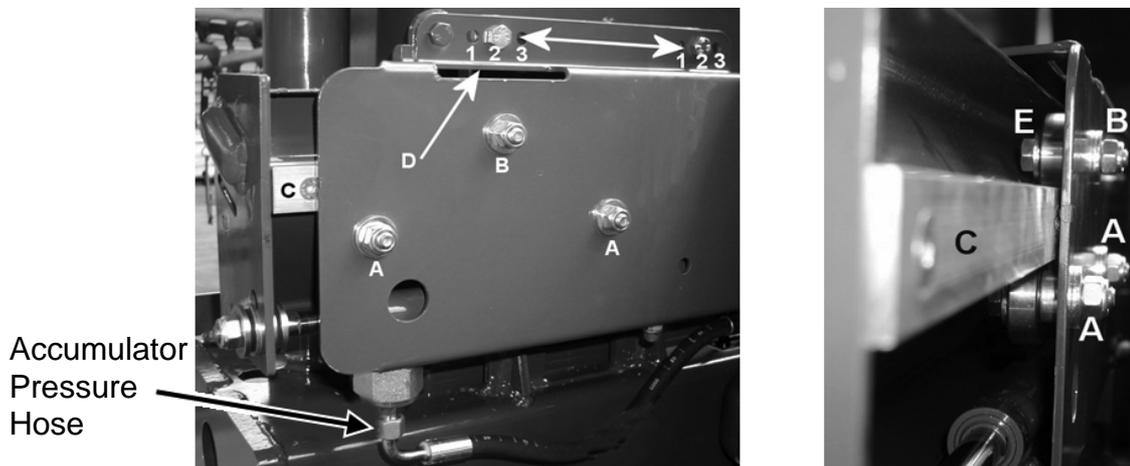

Figure 8.I - Cut and hold rail/horizontal position adjustment
The cut and hold assembly can be adjusted through three (3) different horizontal positions, if desired. The factory set position is at 2, as shown in Figure 8.I. Ensure that the cut and hold assembly is safely secured (as assembly is quite heavy) before attempting the following procedure: